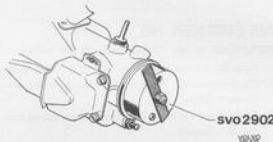

Fig. 2-195. Cover for ignition setting
3. Start the engine. Fit the plastic cover, 999 2902, as shown in Fig. 2-195, and adjust down the speed to 12—13 r/s (700—800 r/m) by moving the bar across the hole in the plastic cover.
4. Adjust the idling speed to 15 r/s (900 r/m by means of the idle adjuster screw. (If the speed cannot be lowered sufficiently, check the basic setting of the throttle valve, see Fig. 2-195.)